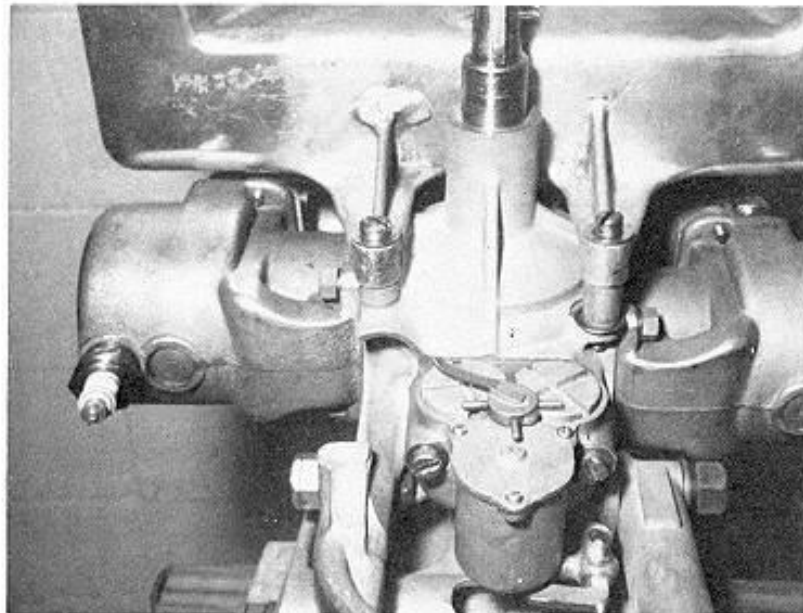

Figure 5
1. The crankcase. This is from the 1927 Ruddertwin. Note the cast-in boss for the air intake, which fits the adjacent Ruddertwin carb that has its air intake on the left side (Figure 4). Also in the figure note the gas tank mounts on the crankcase. They are on the forward side, and also serve as the coil mounting bracket's support. The redesigned crankcase relocated the gas tank mounts in the middle-top of the case, and the coil mounts are on the front. Figure 5 shows the long gas tank mounting brackets. The first gas tanks used 12 threads per inch on the filler cap and drain plug. I'm not sure why, but at Serial Number 60062 Elto changed to 16 threads per inch. The gas tank mounting bracket change came at Serial Number 60999. The gas tanks and crankcases on Speedsters from Serial Number 61000 used the short mounting brackets and were of the stamped aluminum type. To the best of my knowledge, all the early Speedsters used a cast gas tank. Jim Webb indicates that Elto had trouble making the cast tanks "ooze proof," even with many different types of sealers. The two 1927 Speedsters referenced here both have cast tanks.